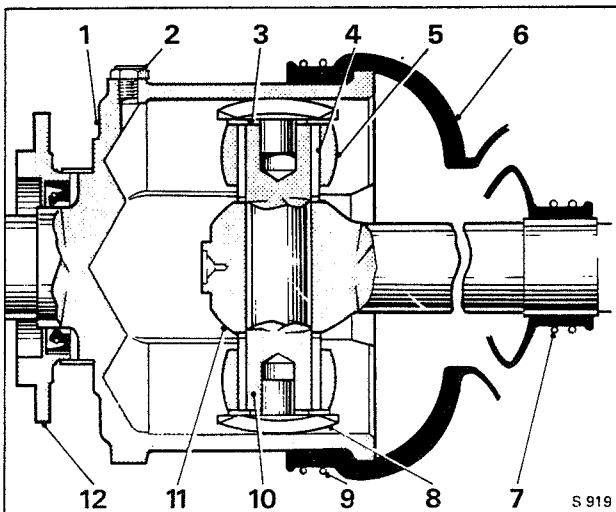

Fig. J13m Half-shaft ball and trunnion joint
5. Remove the trunnion buttons, adjusting washers, bearing outer races and needle rollers from the trunnion pin (see Fig. J13m). Keep each assembly separate and note from which side of the pin they have been removed.
5. Fit the inner washers and the needle roller assemblies to each side of the trunnion pin then, fit the trunnion buttons together with their correctly selected adjusting washers to the pin ends (see Fig. J13m).